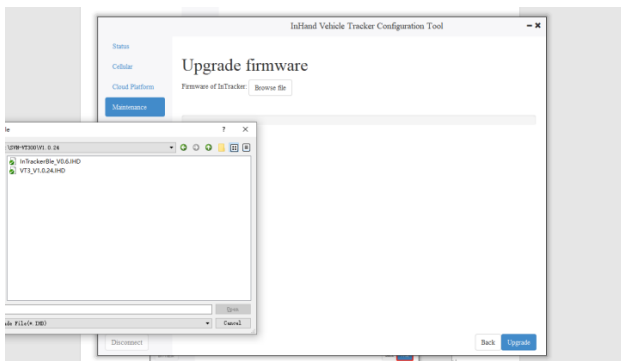

Figure 7-2
Step 2: Click **Browse file** and select the target firmware. Then, click **Upgrade** and wait for the firmware to be installed. Figure 7-2 shows the configuration page.